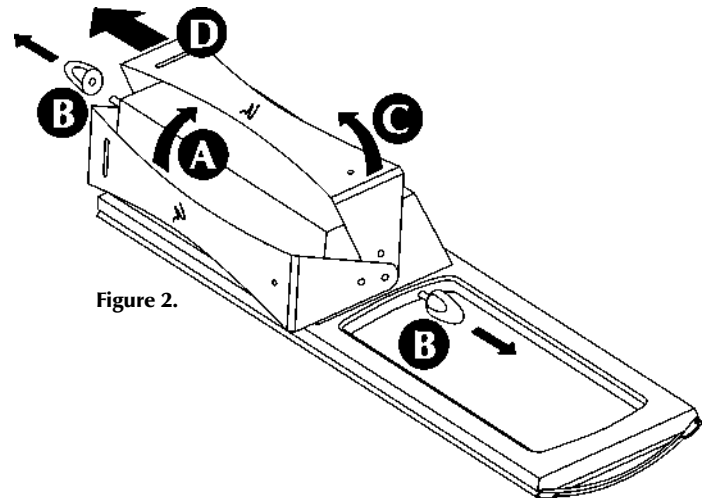

Figure 2.
- 1 The Script is shipped with the wall bracket mounted on and positioned to the side of the speaker cabinet, protected by micro-foam packing material. Set the Script on its side with the bracket facing up. Loosen the knob on the bottom and the knob on the top. Swing the bracket down until the bracket is nearly parallel to the back of the Script (see figure 2, step A).
- 2 Loosen and remove the knob on the bottom of the speaker—notice that the 5/8 inch fiber washer and 1-1/2 inch diameter rubber spacer are shipped installed. The fiber washer will come free when you remove the wing nut—set the washer aside. Loosen and remove the knob on top of the bracket while holding the bracket with your free hand—set the fiber washer and 1-1/2 inch rubber spacer aside (see figure 2, step B).
- 3 Carefully pivot the top of the wall bracket away from the Script until the wall bracket clears the top of the speaker cabinet (see figure 2, step C). Next, move the bracket down to free it from the threaded stud projecting from the bottom of the speaker cabinet. Make sure that the 1-1/2 inch spacer remains on the projecting threaded stud (see figure 2, step D). Finally, remove the micro-foam packing material.